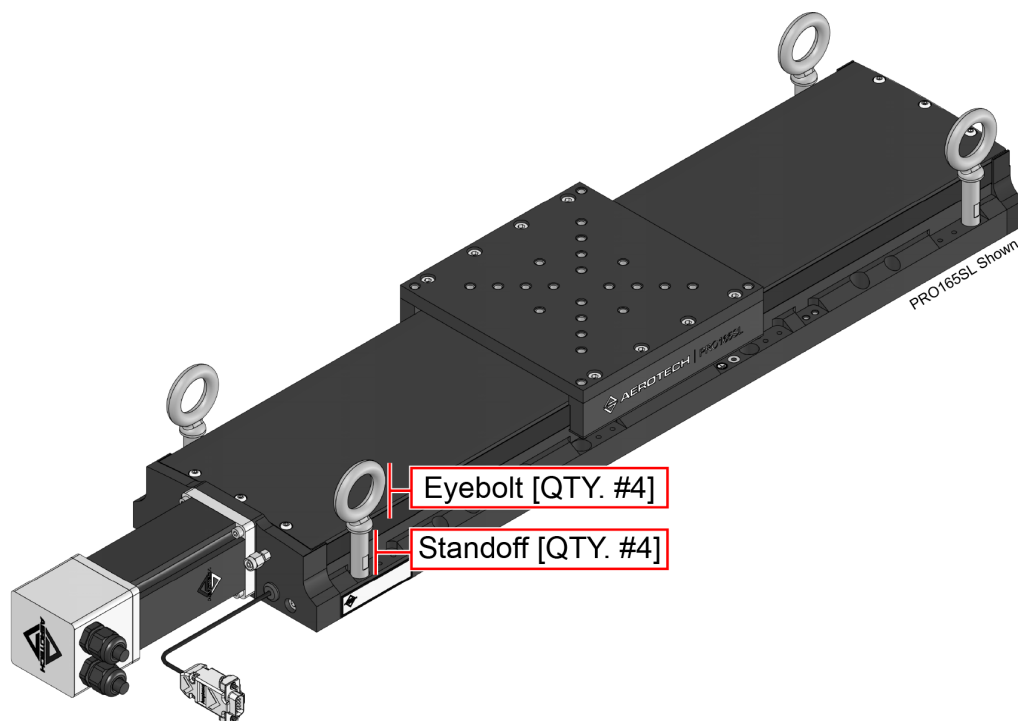

Figure 2-1: Lifting Features
- Lift only by the base. Use lifting hardware if it has been provided (refer to Figure 2-1).
The lifting kit includes four eyebolts and four standoffs. Thread the eyebolts onto the standoffs and thread the standoffs into the stage base. Remove the lifting hardware by turning a wrench on the flats of the standoffs (see Figure 2-1). If the stage is part of a multi-axis system, the lifting hardware should be attached to the lower axis. The lifting hardware must be removed before the stage can be operated.